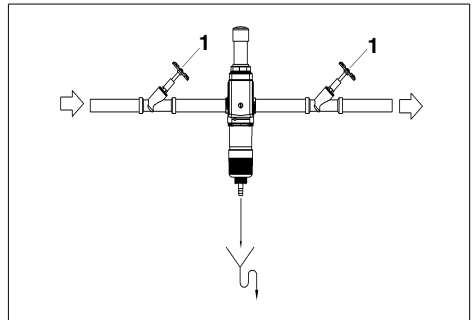

Fig. 11: Cartridge exchange I
1. Close the shut-off valves (1) upstream and downstream of the device (see fig. 11).